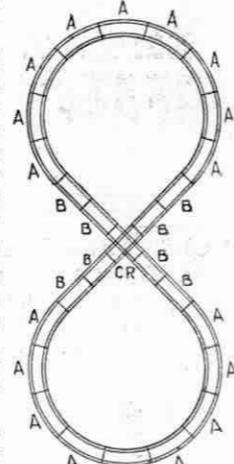

Fig. 9
By altering slightly the shape of this layout a Right-angle Crossing may be substituted for the Acute-angle Crossing. Fig. 9 shows the modified arrangement. In addition to the Right-angle Crossing (CR) the rails required are 18 Curves (A2) and 8 Straights (B1) for the large radius rails; and 8 Curves (A1), 2 Half Curves (A₁), 4 Half Straights (B₁) and 4 Quarter Straights (B₁) for the small radius.